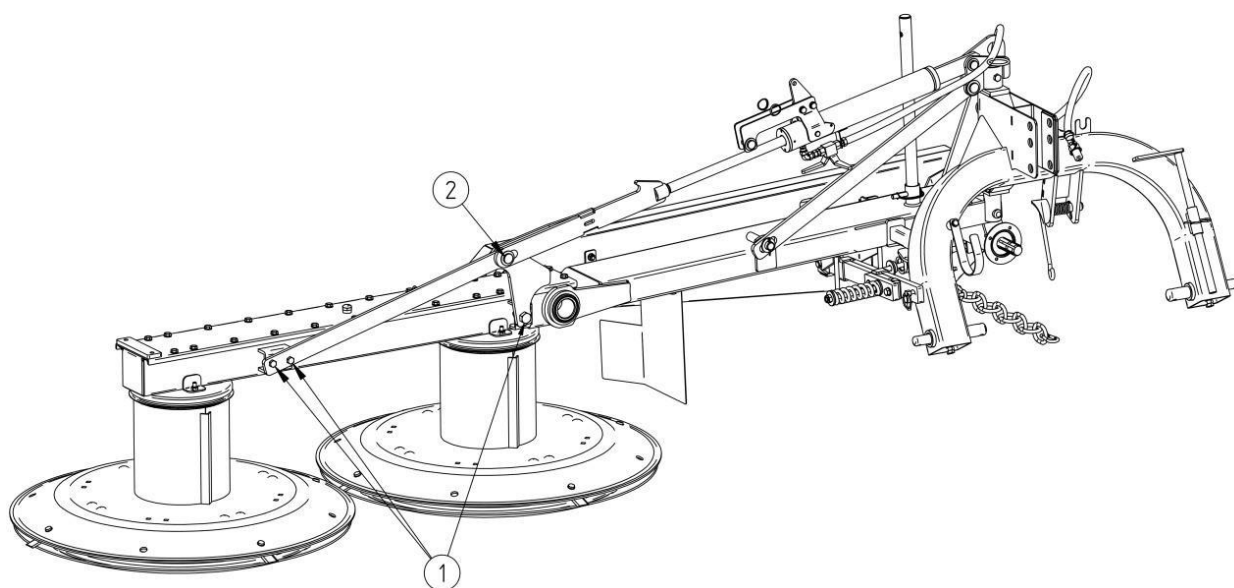

Figure 37 Cover assembly – STEP IX
- Disconnect the milled connector from the scythe-connector (For models with hydraulic cylinder) (Fig. 37 item 2),
- Unscrew the mounting bolts fixing the scythe-connector to the main frame (Fig. 37, item 1) and the scythe-connector remove tie rod-knife from the machine.